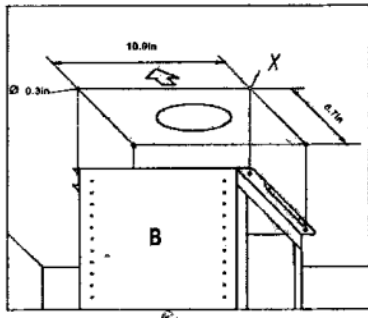

Figure 6
- Make 4, Ø8 holes in the ceiling (marked points) and drive in 3 screws without completely tightening them (Figure 6). Pay attention not to insert the screw into the hole marked with an X on the hole template (the screws and